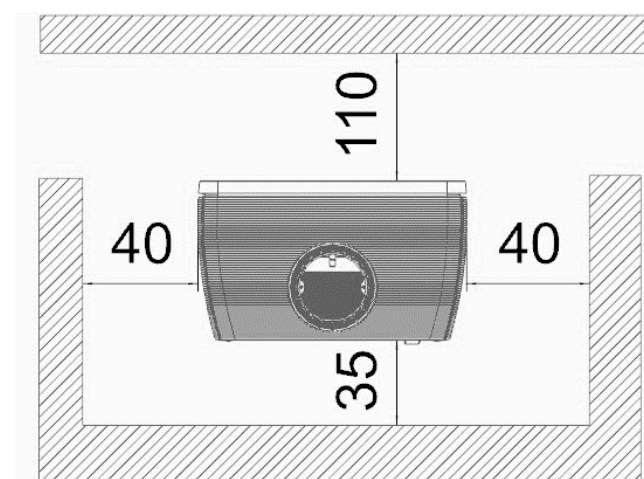

Fig. 24. Measures en cm.
**ATTENTION: The stove is very hot during operation. Do not touch the surface.** Furniture and other combustible materials must keep the necessary safety distance (Fig. 24).